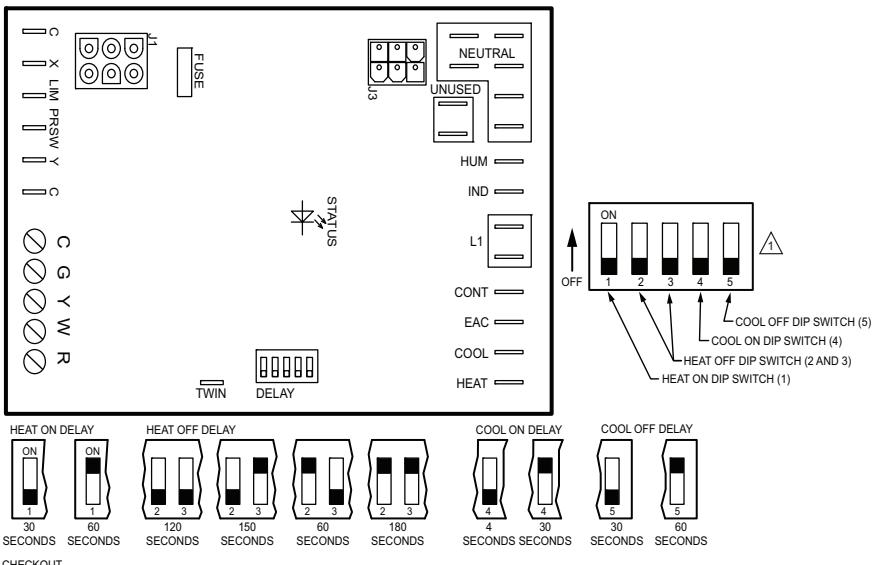

Fig. 10. Setting heat fan-on, heat fan-off, cool fan-on, and cool fan-off delay DIP switches.
*Heat fan off delay setting may need adjustment based on performance. See Fig. 10 to adjust timings.